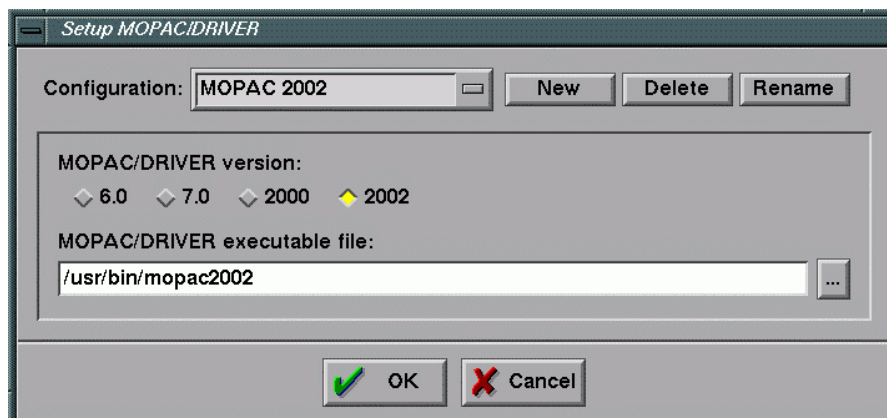

Fig 8.3 Window for setup of MOPAC
3. Configure MOPAC in *Setup MOPAC* window (**Fig 8.3**). Choose the version of your MOPAC program. Next, specify the location of the executable files of MOPAC on your system. Special configurations for various versions of MOPAC and the position of its executable file on various machines can be saved and restored by user.